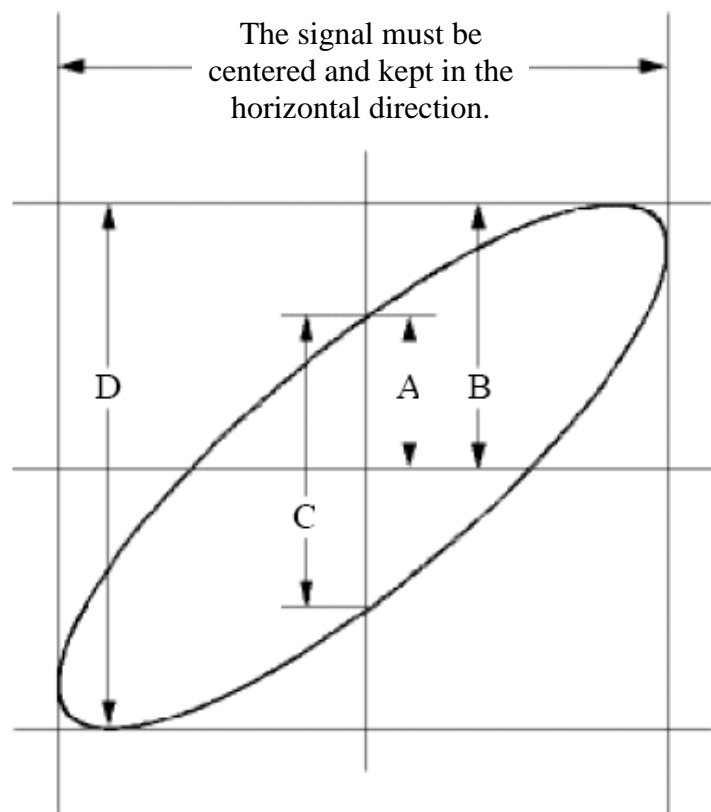

Figure 0-6 Lissajous Graph
- (1) Set the probe menu attenuation coefficient for **10X** and that of the switch in the probe for **10X** (see "*How to Set the Probe Attenuation Coefficient*" on P13).
- (2) Connect the probe of channel 1 to the input of the network and that of Channel 2 to the
- (3) Push the **Autoset** button, with the oscilloscope turning on the signals of the two channels and displaying them in the screen.
- (4) Turn the **Vertical Scale** knob, making the amplitudes of two signals equal in the rough.
- (5) Push the **Acquire** button to display the right menu.
- (6) In the right menu, select **XY Mode** as **ON**. The oscilloscope will display the input and terminal characteristics of the network in the Lissajous graph form.
- (7) Turn the **Vertical Scale** and **Vertical Position** knobs, optimizing the waveform.
- (8) With the elliptical oscillogram method adopted, observe and calculate the phase difference (see *Figure 0-6*).